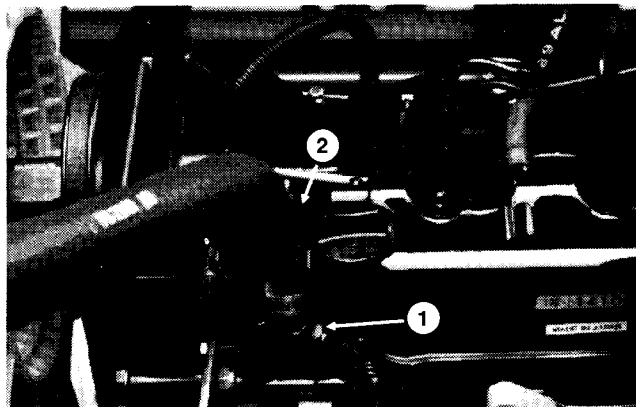

Figure 23
1. Lower the coolant level in the engine and remove the high temperature shut-down switch (Fig. 23).
1. Lower the coolant level in the engine and remove the temperature gauge sender (Fig. 23).